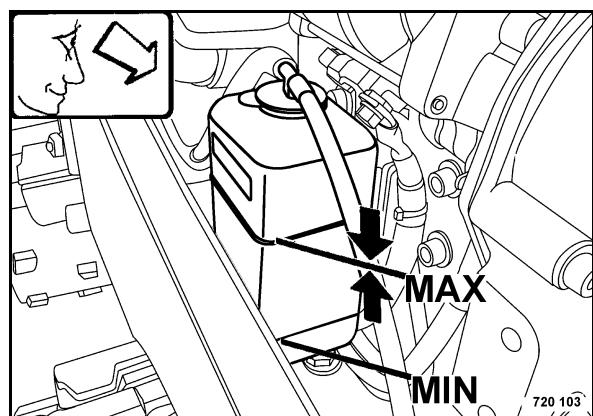

Fig. 130
- Fill in coolant up to the MAX mark (Fig. 130).